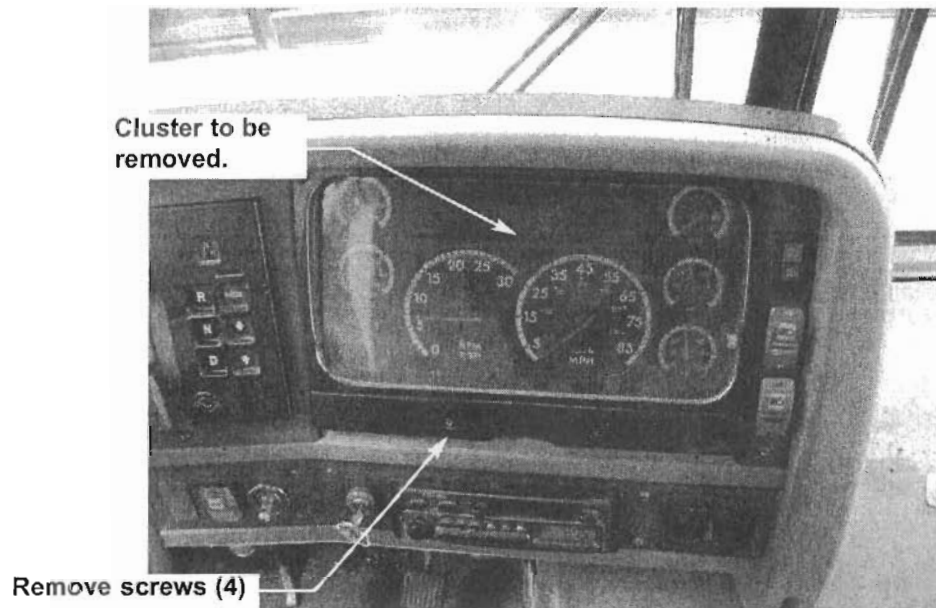

Figure 4
5. Remove electrical ICU cluster assembly and unplug. **Figure 4**
- b. Remove four (4) screws.